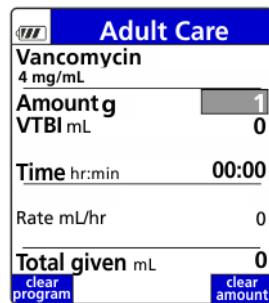
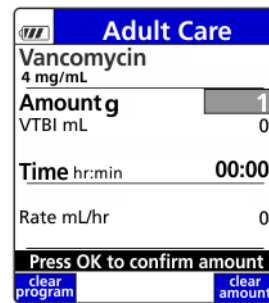

Figure 90. Standard Concentration Setup Screen.
Figure 91. Standard Concentration Confirmation Screen.
2. Confirm standard concentration and press **OK**. See Figure 90. Also see Figure 91.